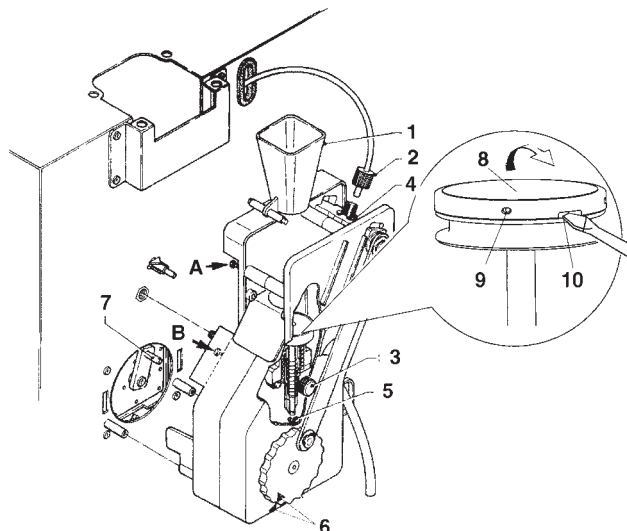

Fig. 19
- remove the boiler teflon hose connection from the upper piston, paying attention not to lose the seal (see Fig. 19);
- Loosen screws A and B enough to release the funnel (see Fig. 19);